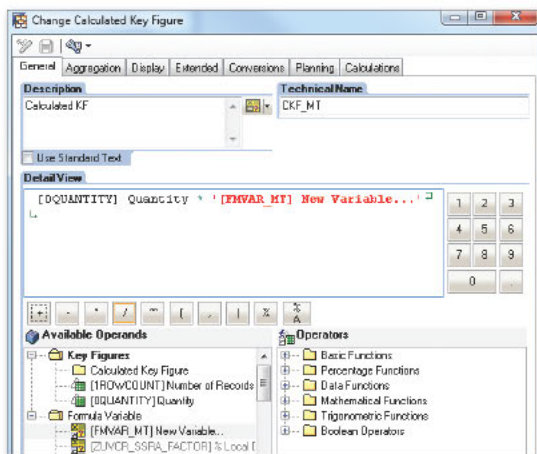

Figure 2 Defining the Calculated Key Figure Using the Formula Variable
2. In the CHANGE CALCULATE KEY FIGURE screen, drag and drop both OQUANTITY from the KEY FIGURES section and the newly created formula variable FMVAR_MT to the DETAIL VIEW box. From the OPERATORS section, use the multiplication operator to calculate the material cost as shown in Figure 2.